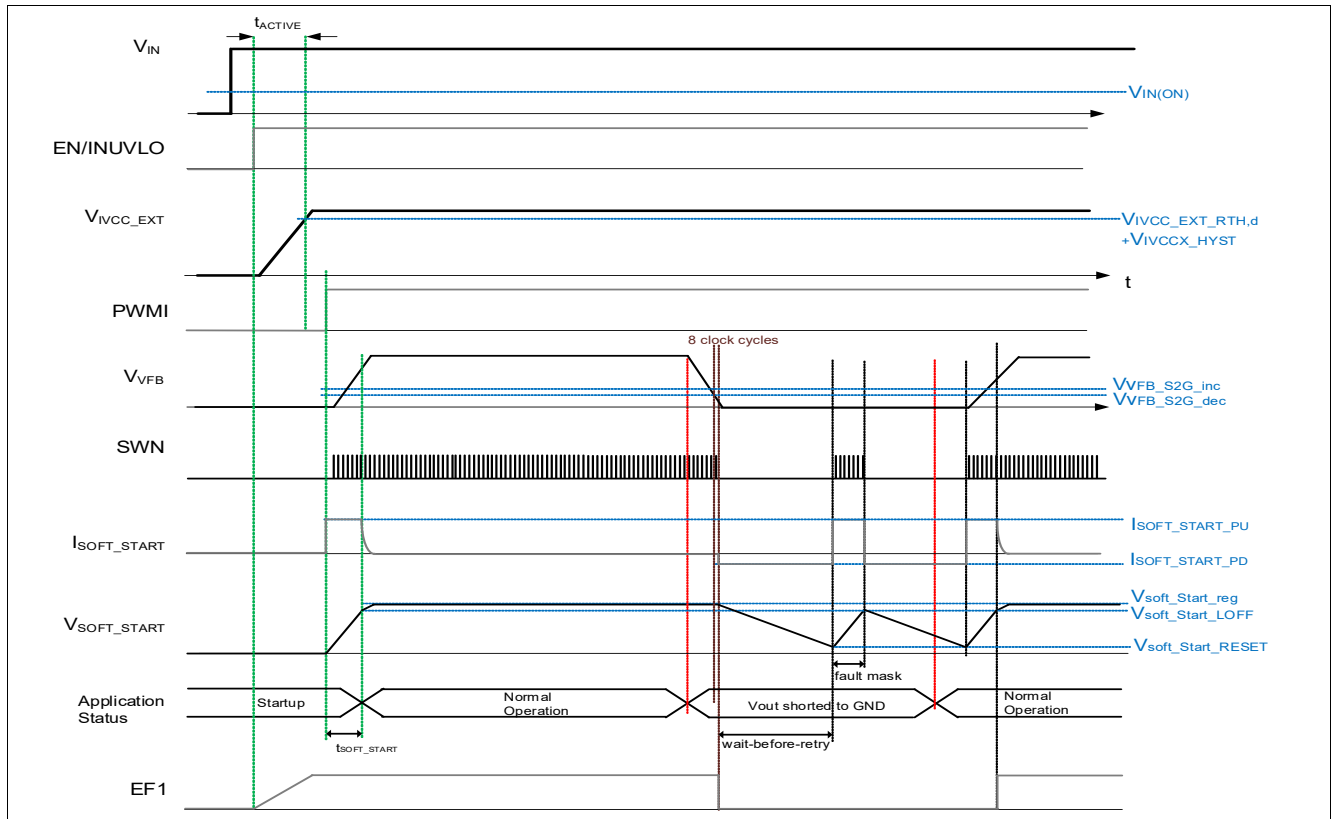

Figure 8 Soft Start timing diagram on a short to ground detected by the VFB pin
- Fault management: fault mask and wait-before-retry time (**Figure 8** and chapter **Chapter 10.2**)
If an open load or a short circuit on the output is detected, a pull-down current source $I_{SOFT_START_PD}$ (P_6.4.20) is activated. This current brings down the V_{SOFT_START} until $V_{SOFT_START_RESET}$ (P_6.4.22) is reached. Afterwards the pull-up current source $I_{SOFT_START_PU}$ (P_6.4.19) turns on again. If the fault condition hasn't been removed until $V_{SOFT_START_LOFF}$ (P_6.4.21) is reached, the pull-down current source turns back on again, initiating a new cycle. During the soft start rise time the device is switching, during fall time the device is halted (**Figure 8**). This hiccup mode will continue until the fault is removed.